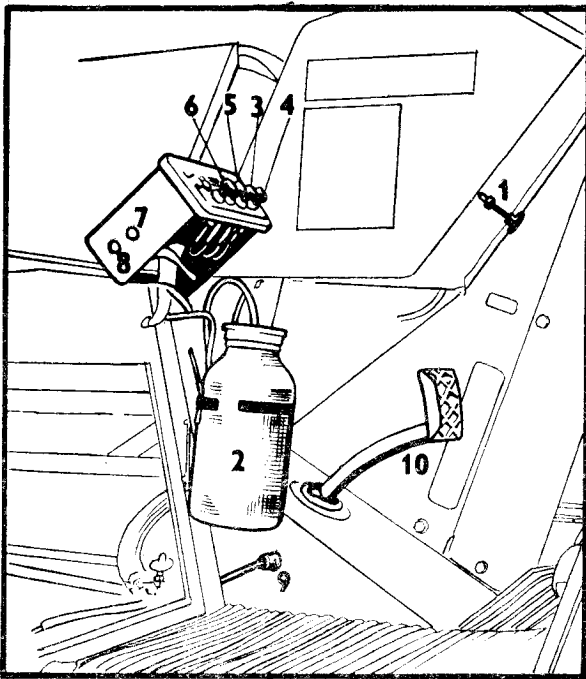

Fig. 3
- Front windscreen wiper push button (Fig. 3/1)
- Front windscreen wiper tank (Fig. 3/2) — fill with anti-freeze in winter
- Rear windscreen wiper switch (Fig. 3/3)
- Front windscreen wiper switch (Fig. 3/4)
- Cab ceiling lamp switch (Fig. 3/5)
- Heating system and cab ventilation switch (Fig. 3/6)
- Remote control of hot water heating system water tap (Fig. 3/7). If the heating system is in operation, the tie rod shall be in its slid-in position.
- Flap valve of the delivery branch of the heating system fan. When heating the tie rod shall be in its slid-in position (Fig. 3/8).
- Tumbler switch (Fig. 3/9) disconnects electric power supply from the storage battery to the switch box. Electric power disconnecting is carried out by turning the switch lever to the right (upwards). The lever can be taken out.
- Clutch pedal (Fig. 3/10)